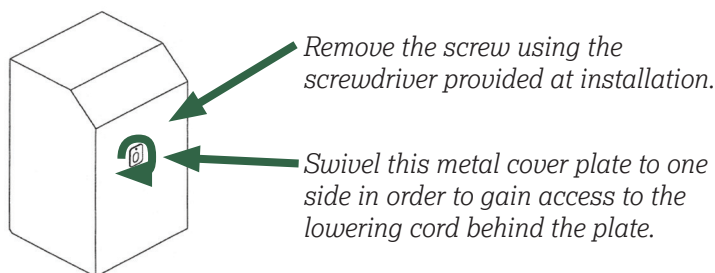

Figure 7.
- Locate the hydraulic power unit, normally outside the property (Figure 7)
- Swivel the metal cover plate on the front face of the housing to reveal an access hole (Figure 7)